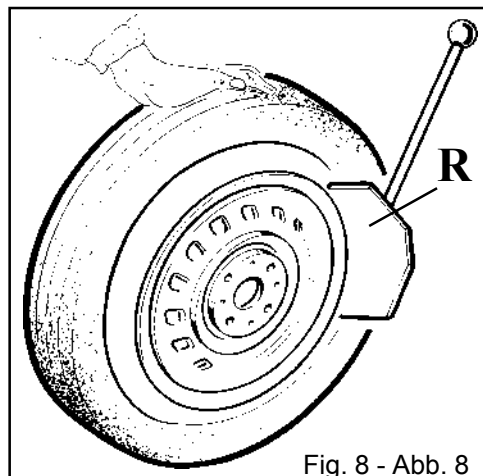

Fig. 8 - Abb. 8
- Position the wheel against the rubber stops on the right side of the tyre changer (S).
- Position the bead breaker blade (R) against the tyre bead at a distance of about 1 cm from the rim (fig.8). Pay attention to the blade, which must operate correctly onto the tyre and not onto the rim.
- Press down the pedal (U) to activate the bead breaker and release it when the blade has reached the end of its travel or in any case when the bead is broken.